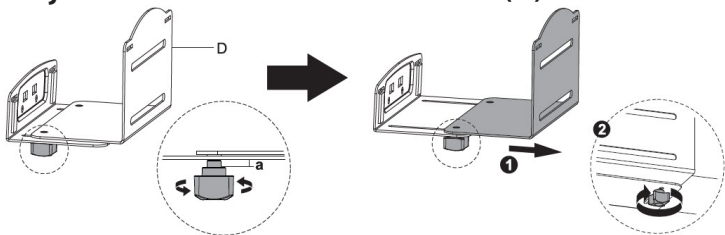

Figure 12
1. Twist the **Knobs** located on the bottom of the **CPU Holder (D)** in a counterclockwise direction to loosen. (Figure 12)
2. Adjust the **CPU Holder (D)** to the width of the **CPU**.
3. Twist the **Knobs** located on the bottom of the **CPU Holder (D)** in a clockwise direction to tighten.